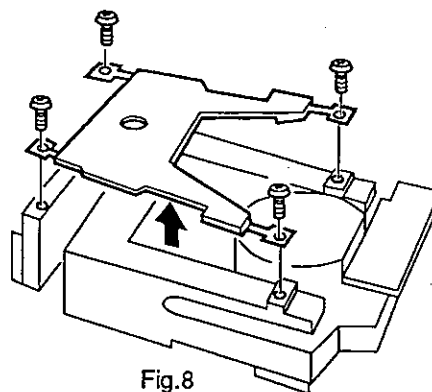

Fig.8
Step 8 Remove the upper flexible bearing assy. (Fig. 8)